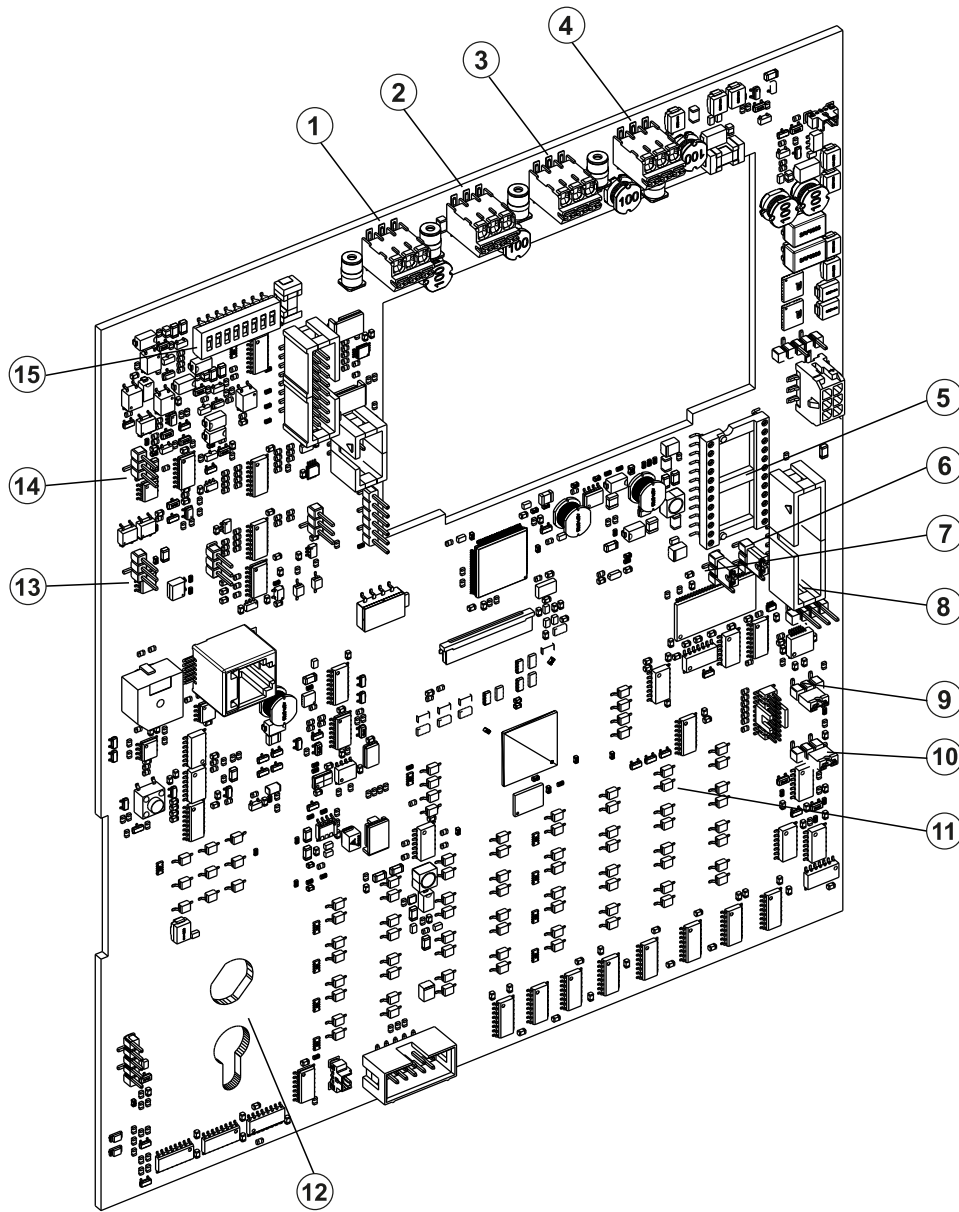

Fig. 16: CUI - Colour User Interface (557.202.919)
11 Set the address and baud rate using the DIP switch S1 on the CUI Repeater. Make the baud rate setting according to Table 4. Make the address setting according to Table 3. For the address, set the switch to OFF for binary 0, or ON for binary 1. The DIP switch S1 location is on the top left-hand side, see items 1 to 4 in Fig. 16. You may use a small screwdriver to move the switch sliders.